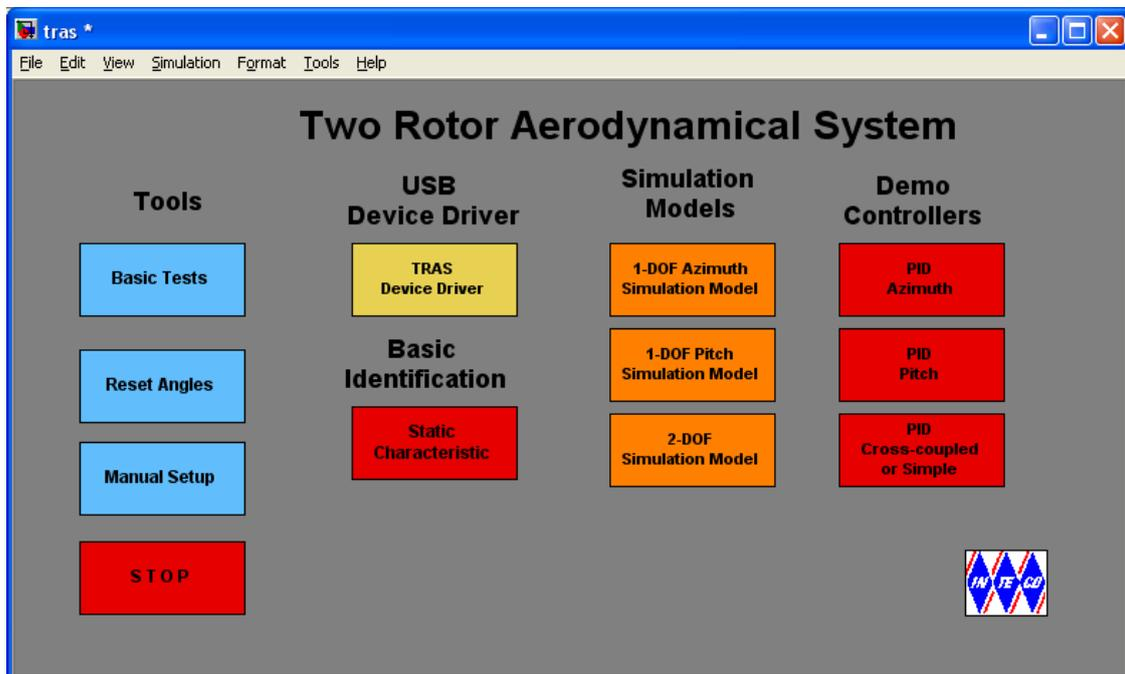

Fig. 2.1 TRAS Control Window
and the *TRAS Control Window* opens (see Fig. 2.1)
*TRAS Control Window* shown in Fig. 2.1 contains four groups of the menu items: